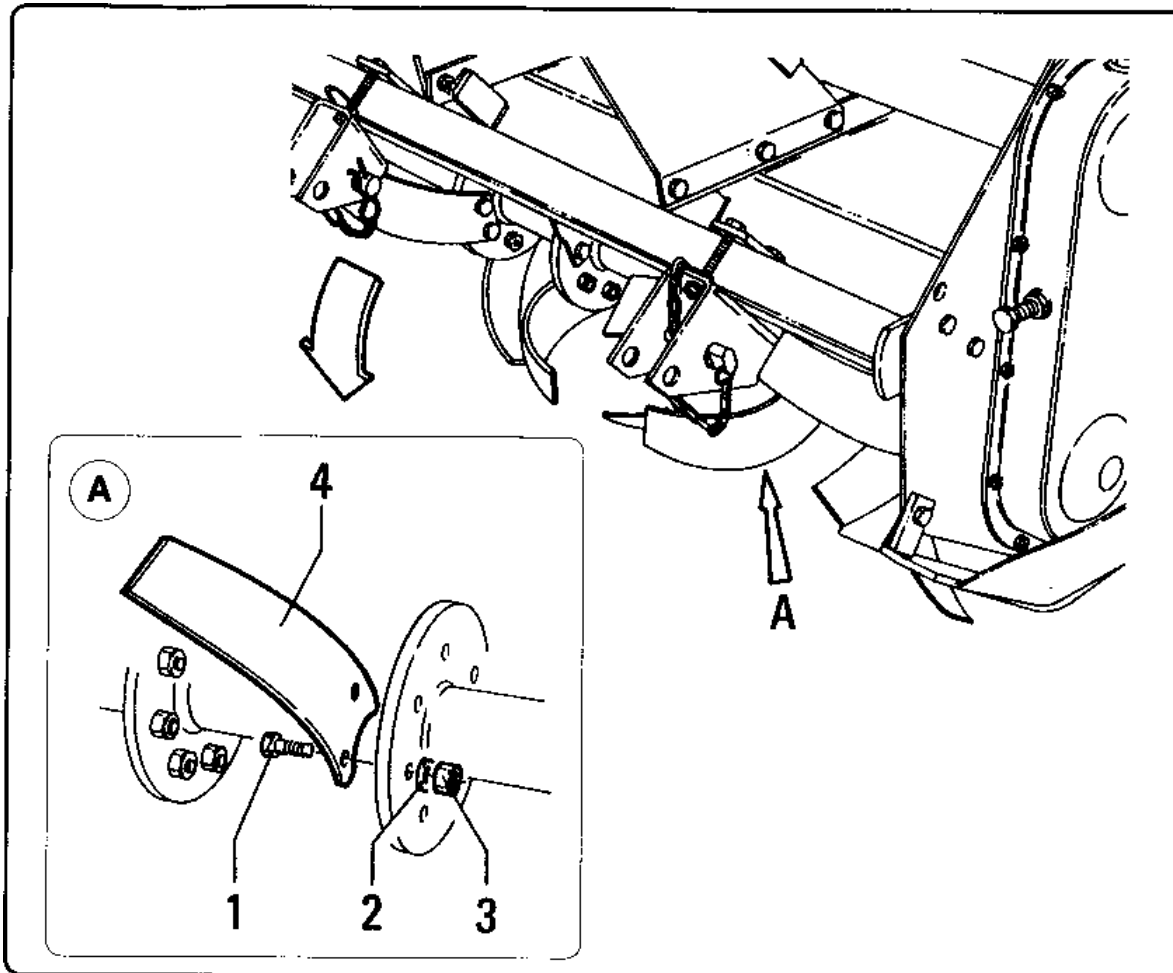

fig. 7.5.3
7.5.4 – Changing the hoe blades (fig. 7.5.3)
- The hoe blades "4" fig. 7.5.3 must be replaced if they are damaged, bent, worn blunt or liable to break during work.